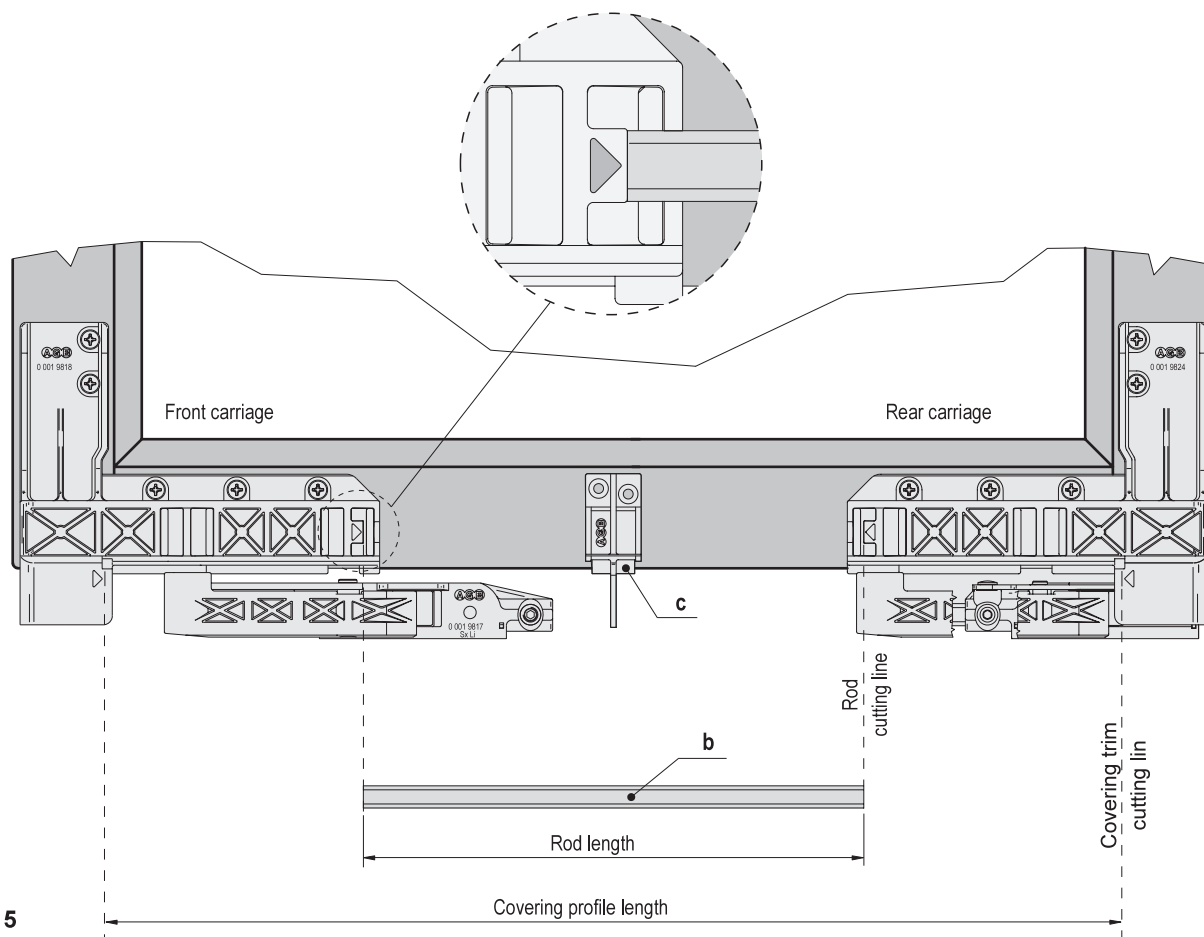

fig. 5
- 5) Lay the carriage link rod (b) in the seat (marked by an arrow) of one of the two carriages, and mark the cutting dimensions corresponding to the arrow on the opposite carriage (fig. 5).
- 7) To cut the cover trim to size refer to the arrows marked on the carriages (fig. 5).